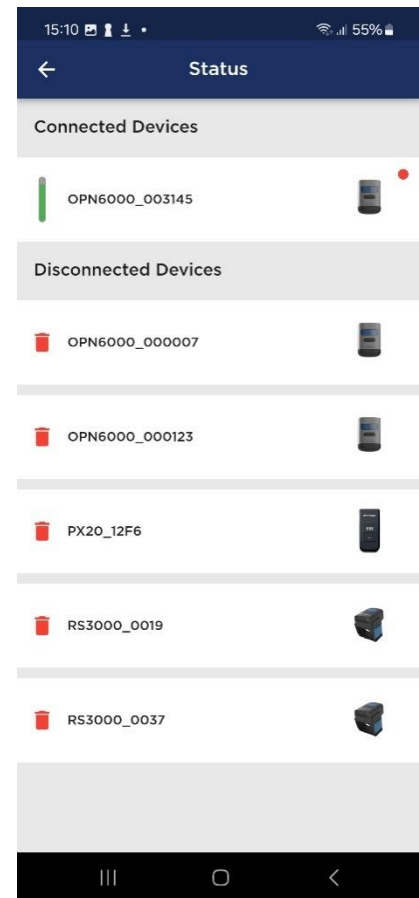

Figure 11-1: The *Manage Devices* page where the OPN6000_003145 has an available update, indicated by the red notification icon.
- In the *Connected Devices* list, click on the device you wish to update. Devices with an available update will be marked with a red notification icon, as shown in Figure 11-1.